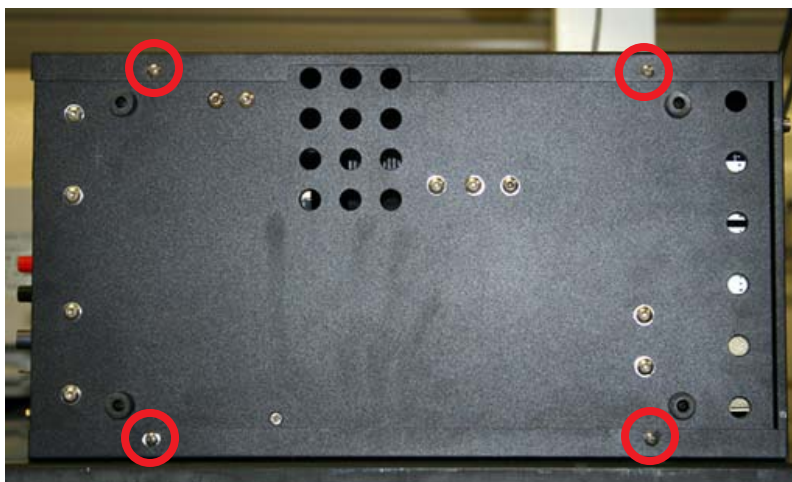

Figure 3-8 Case top removal: Remove screws
1. Turn the ELSD onto its side and remove the case top by removing the four screws holding it in place (Figure 3-8). Turn the ELSD upright again.